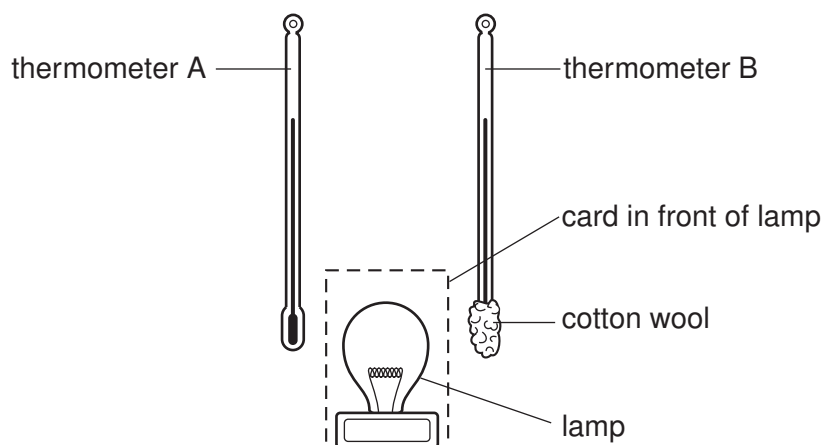

Fig. 1.1
3. The thermometers are to be set up in clamps as shown in Fig. 1.1. The thermometer bulbs are to be on opposite sides of the lamp and 1.0 cm from the outside surface of the lamp.